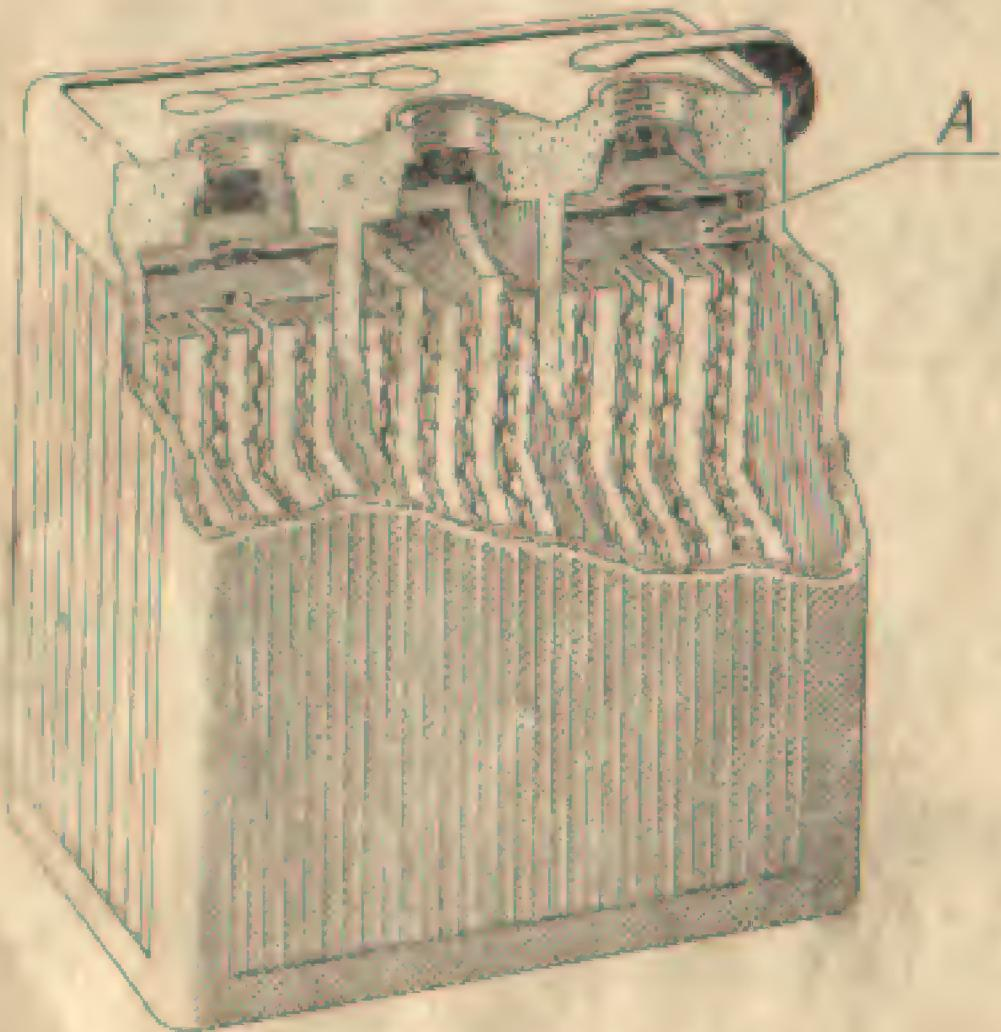

Fig. 30 - Correct electrolyte level in the battery
2. Top up the battery not higher than to the first separator above the plates (see Fig. 30 - the separator A). Excessive electrolyte could be sucked off to the prescribed level by means of the small suction balloon. If this advise is not followed excessive acid may overflow when riding and cause damage to the box and exhaust silencer.
1. Remove the inserts under the plugs or the strip on the plugs. Fill in all cells with **chemically pure** sulphuric acid (do not use technical acid) diluted with the distilled water to the density of 1.28 (in tropical regions to 1.23). Never fill the electrolyte higher than **up to the first separator** above the plates (see Fig. 30 - separator A).
2. Check the electrolyte level by means of suction balloons every two months at least and if required top up distilled water to the prescribed level - **not higher** (see Fig. 30 - separator A).